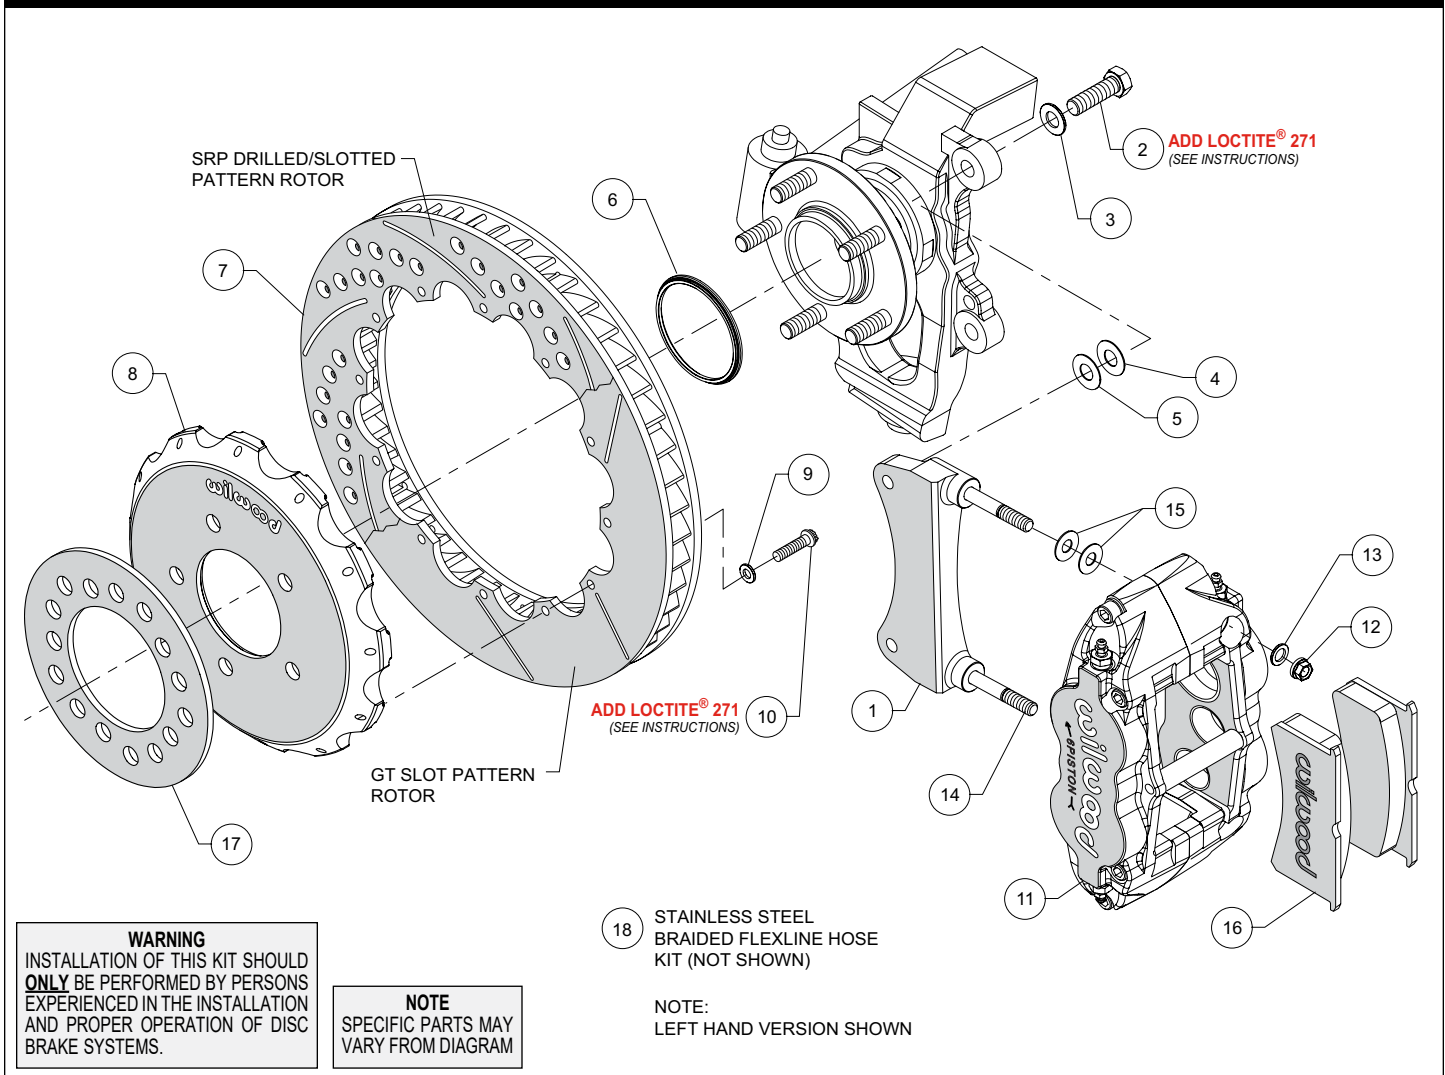
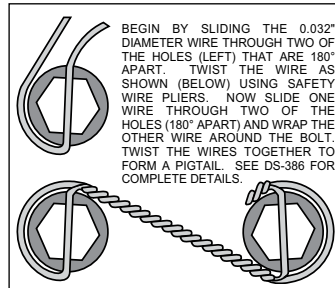

Figure 1. Typical Installation Configuration
Figure 3. Safety Wire Diagram
Assembly Instructions (numbers in parenthesis refer to the parts list and Figure 1 on the preceding pages):
- The caliper mount bracket (1) should initially be installed with clean, dry threads on the mounting bolts. Orient the bracket as shown in Figure 1 and Photo 1, and install using washers (3) and bolts (2). Initially place one .033 thick shim (4) and one .015 thick shim (5) on each bolt between the bracket and upright, Figure 1. Temporarily tighten the mounting bolts. **NOTE: The bracket must fit squarely against the mount bosses on the upright.** Inspect for interference from casting irregularities, machining ridges, burrs, etc. Later, after the caliper alignment has been checked, the mount bolts will be secured using red *Loctite*® 271.
- Orient the rotor (7) and the hat (8) as shown in Figure 1 and Photo 2. Attach rotor to hat using bolts (10) and washers (9). Apply red *Loctite*® 271 to the bolt threads and torque to 155 in-lb using a criss-cross pattern. For an added measure of security, the bolts may be safety wired using standard 0.032 inch diameter stainless steel safety wire as shown in Figure 3. Please refer to Wilwood's data sheet DS-386 (available at www.wilwood.com/Pdf/DataSheets/ds386.pdf) for complete safety wire installation instructions.
- Slide the rotor registration adapter (6) onto the axle register on the axle hub with the smaller O.D. facing outward, Photo 3. Slide the hat/rotor assembly onto the axle hub. **NOTE: The hat must fit flush against the axle hub flange or excessive rotor run out may result.** Install three lug nuts (finger tight) to keep the hat/rotor assembly in place while continuing with the installation.
- **NOTE: This kit contains distinct right and left hand calipers that must be mounted in a specific direction, as described below.** Initially place two .035" thick shims (15) on each stud (14) as shown in Figure 1 and Photo 4. Mount the caliper (11) onto the bracket (1) using lock nuts (12) and washers (13), Figure 1. Ensure that the caliper is mounted so that the largest pistons are at the rotor exit end of the caliper, in relation to the direction of rotor rotation. Temporarily tighten the lock nuts and view the rotor through the top opening of the caliper. The rotor should be centered in the caliper, Photo 5. If not, adjust by adding or subtracting shims (4 and/or 5) between the bracket and the upright. Always use the same amount of shims on each of the two mounting bolts. Once the caliper alignment is correct, remove the bracket mounting bolts (2) one at a time, apply red *Loctite*® 271 to the threads, and torque to 60 ft-lb.
- Install the wheel spacer (17) against the hat face, Figure 1 and Photo 8. **NOTE:** *Spacer is required to clear stock wheels.* Temporarily install the wheel and torque the lug nuts to the manufacturer's specification. Ensure that the wheel rotates freely without any interference. Remove wheel for next step.